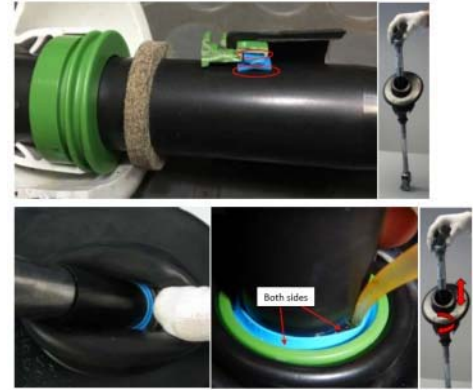

Figure 3
- 2.1 Lubricate blue sealing ring, making sure that **both** contact surfaces (to the shaft and to the green sealing ring) are lubricated ⇒ *Figure 3.*